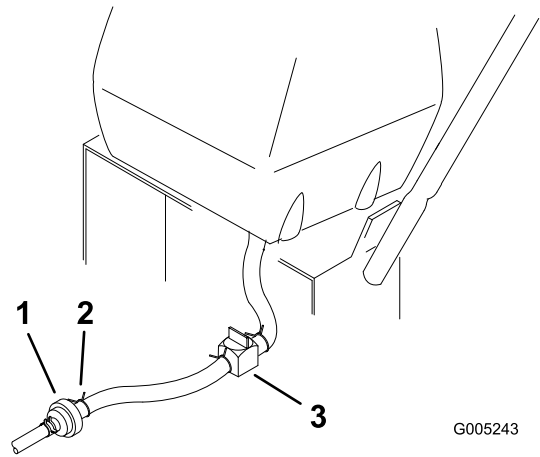

Figure 37
2. Close the fuel shut-off valve at the fuel tank (Figure 37).
3. Squeeze the ends of the hose clamp together and slide it up the fuel line away from fuel filter (Figure 37).
4. Pull the fuel line off the fuel filter (Figure 37). Open the fuel shut-off valve and allow the gasoline to drain into a gas can or drain pan.
3. Close fuel shut-off valve at the fuel tank (Figure 37).
7. Open fuel shut-off valve at fuel tank (Figure 37).